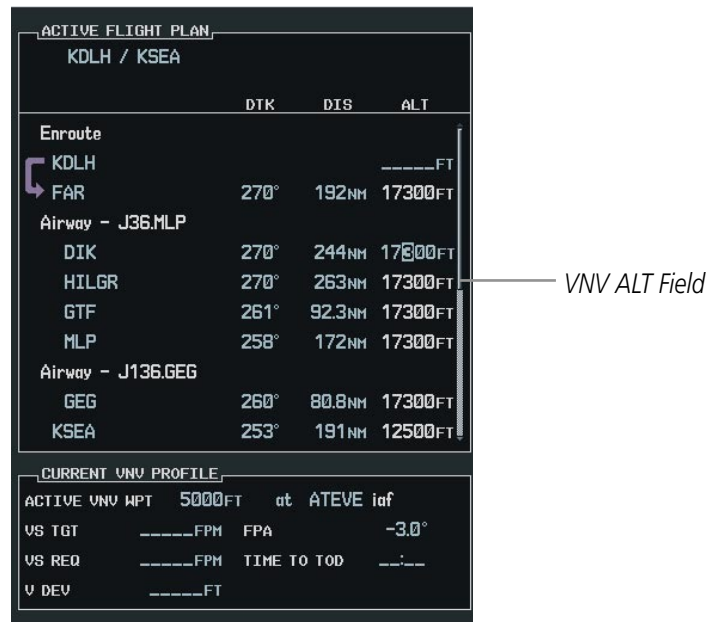

Figure 5-87 Entering an Altitude Constraint
- 2) Highlight the desired waypoint altitude field (Figure 5-87).